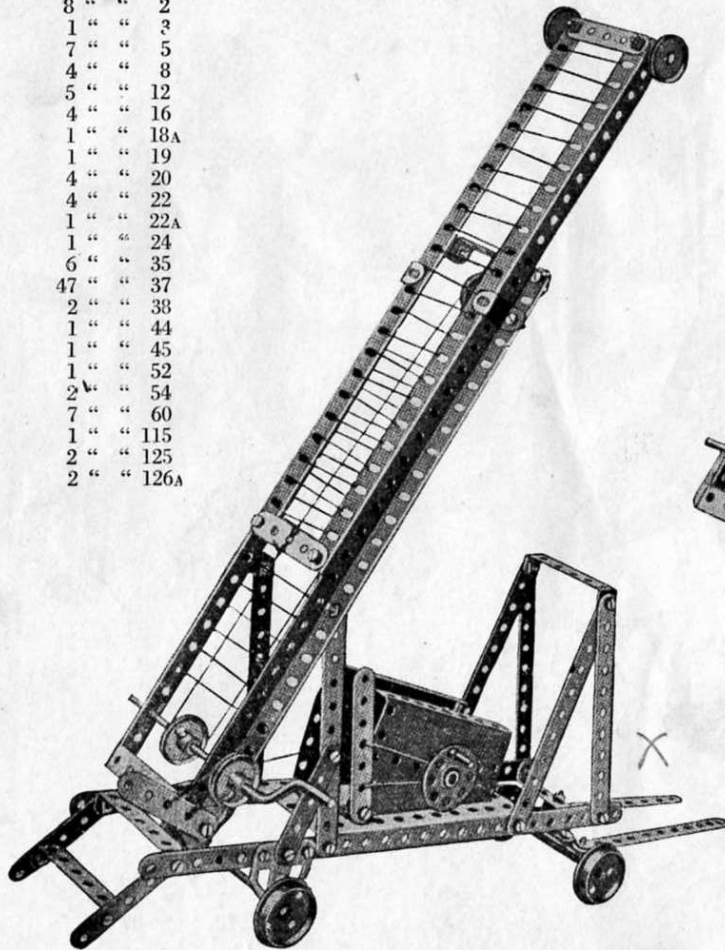

Fig. 245A
The bed of the lower carriage framework is formed by bolting two $12\frac{1}{2}$ " strips to the sides of a large flanged plate, and two sector plates bolted to the flanged plate by their flanges to form the sides, and a bearing for the spindle carrying the operating cord attached to the bottom of the ladder to raise it from a horizontal position, and the strips (1) form a support for the ladder when in this horizontal position. Angle brackets (2), Fig. 245A, form pivots for the lower part of the ladder, and are carried from the supports (3). The upper part of the ladder, Fig. 245, is slidably guided and retained on the lower ladder by reversed brackets (4). The extension of the ladder is effected by the cranked spindle round a pulley on which (and another pulley at the top of the framework) the cord is passed, the ends being secured to the lower part of the slidable ladder.